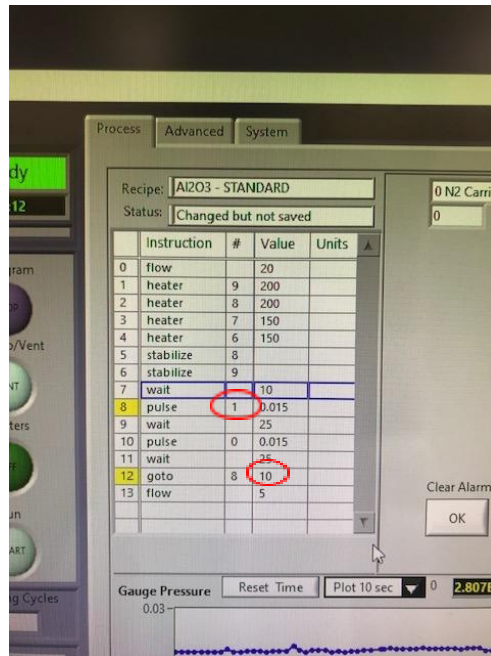

Figure 9: Recipe parameters to verify/modify before starting a deposition
- 9.6.4. Once the recipe is loaded, ensure the “pulse” and “goto” steps are set correctly for your process. **Figure 9.**